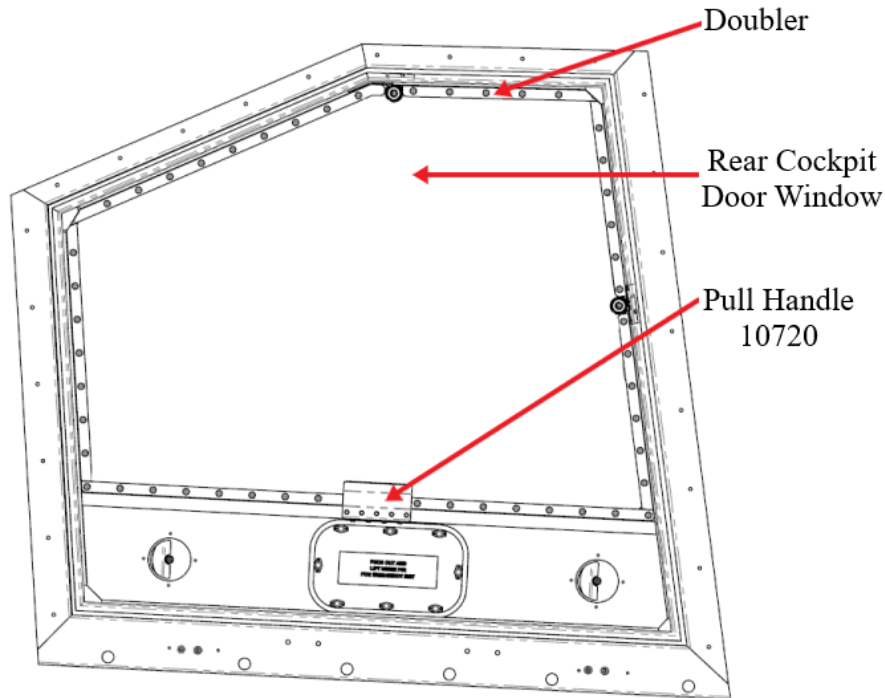

Figure 11: Pull Handle and Doublers on Rear Cockpit Door (Inside View)
5. Remove pull handle and Doublers to gain access to rear cockpit door window (Figure 11).